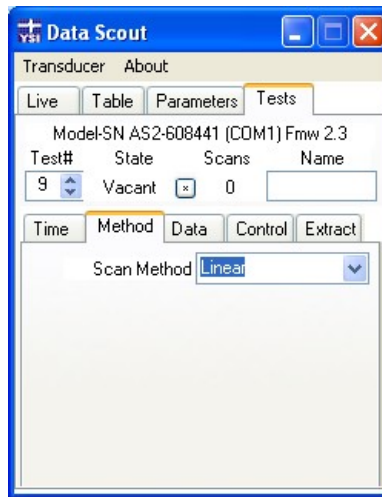

Figure 3.41
- *Linear* - This results in logging data at a constant interval (scan interval) for the entire test (Figure 3.41).